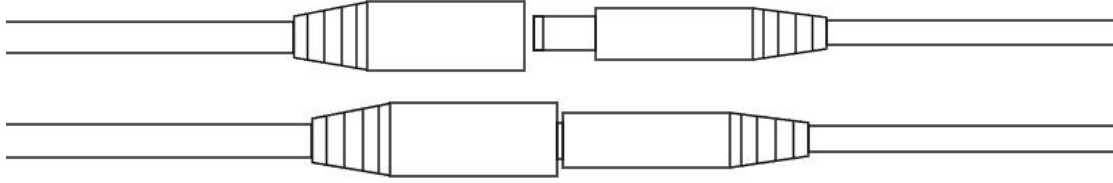

Figure 4-7 Round Plug Connection
2. Connect the power cable and the power adapter to the power source, and connect the round plug at the end of the power adapter to the round connector of the USB cable, as shown in Figure 4-7.